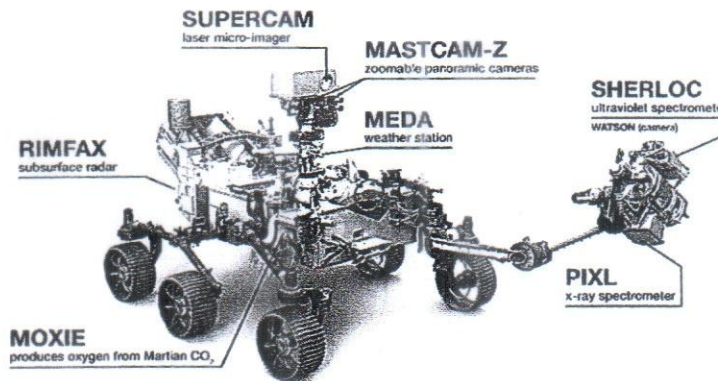

Figure 7: A Mars Rover (<https://www.newslick.in/Take-Bow-NASA-Perseverance-Rover-Mars>)
- b) The basis of many signal conditioning units is operational amplifier. Mars Rover as in Figure 7 is an excellent example of a complex mechatronics system ever developed. Select and elaborate on the working principles of 3 (THREE) types of operational amplifiers that can be part of the sensor measurement conditioning system for the Mars Rover shown. Sketch the schematic diagram of each type of operational amplifiers. **(15 Marks)**